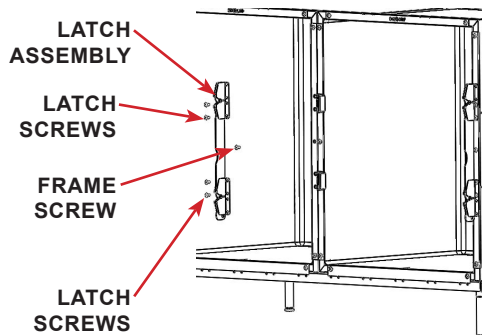

FIGURE 2.28 - Latch Removal
STEP 18: Remove the screws (4 ea) holding the latch assembly and the center frame screw from the previous set cage. See FIGURE 2.28